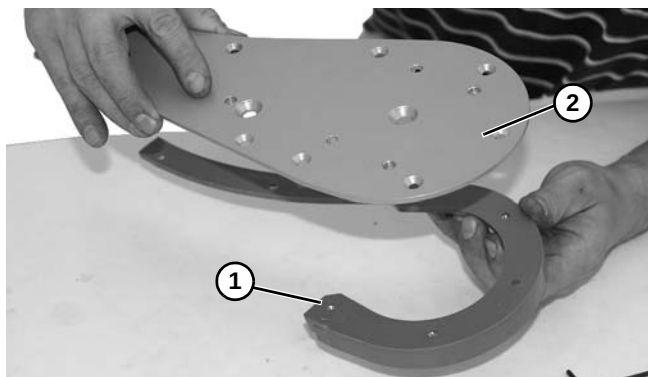

Figure 83
3. Remove retaining guide (**Figure 83, item 1**) from idler head plate assembly (**Figure 83, item 2**). Replace components, as needed.